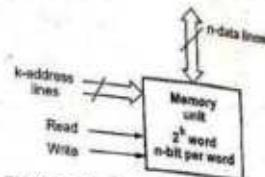

Fig. 7.1.2 Block diagram of  $\omega_{\text{ext}}$
- The communication between a memory and its environment is achieved through data lines, address selection lines, and control lines that specify the direction of transfer. The Fig. 7.1.2 shows the block diagram of memory unit. Then data lines provide the information to be stored in memory and the  $k$  address lines specify the particular word chosen among the many available. The two control inputs specify the direction transfer.